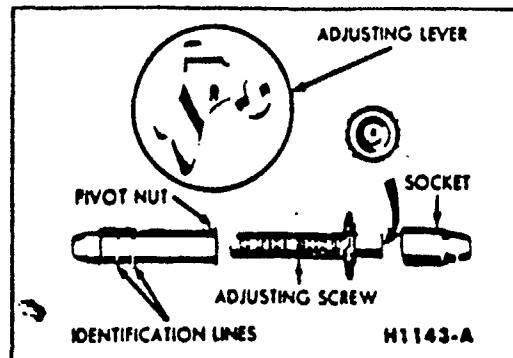

Fig. 22
The adjusting levers are stamped H. or L. to indicate their installation on a right or left hand brake assembly. (see fig. 22)
12. Pull the adjuster lever, cable and automatic adjuster spring down and toward the rear to engage the pivot hook in the large hole in the secondary shoe web. (see fig. 22)